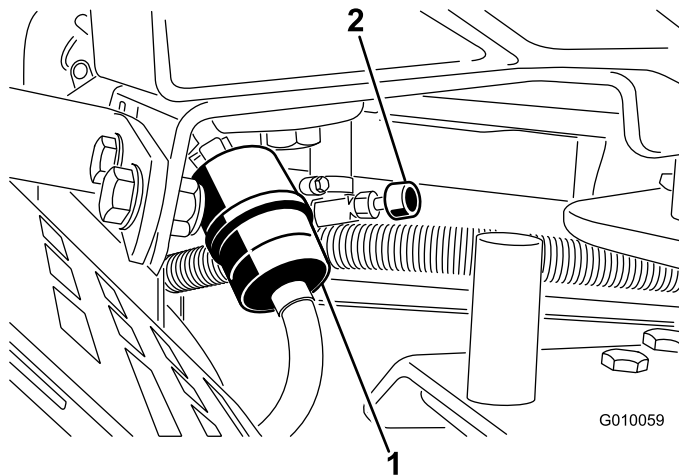

Figure 52
2. Close the fuel-shutoff valve (Figure 52).
3. Squeeze the ends of the hose clamps together and slide them away from the filter (Figure 52).
5. Install a new filter and move the hose clamps close to the filter (Figure 52).
7. Open the fuel-shutoff valve (Figure 52).
3. Loosen the hose clamp at the fuel filter and slide it up the fuel line away from the fuel filter (Figure 52).
4. Pull the fuel line off the fuel filter (Figure 52). Open the fuel-shutoff valve and allow fuel to drain into a fuel can or drain pan.
5. Install the fuel line onto the fuel filter. Slide the hose clamp close to the fuel filter to secure the fuel line (Figure 52).